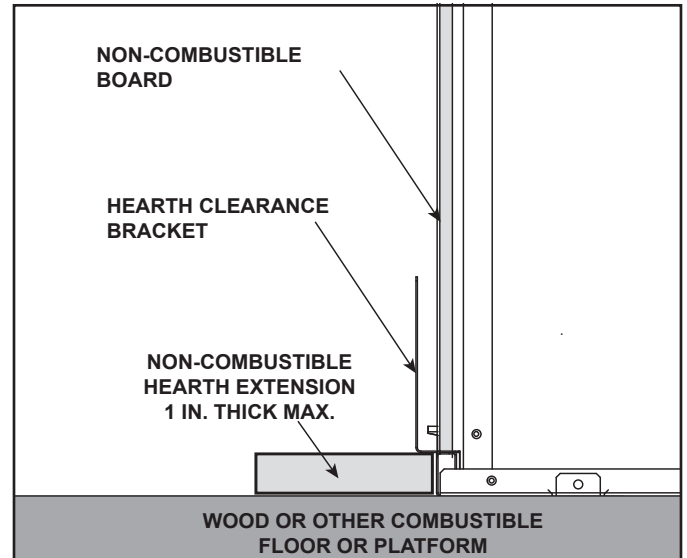
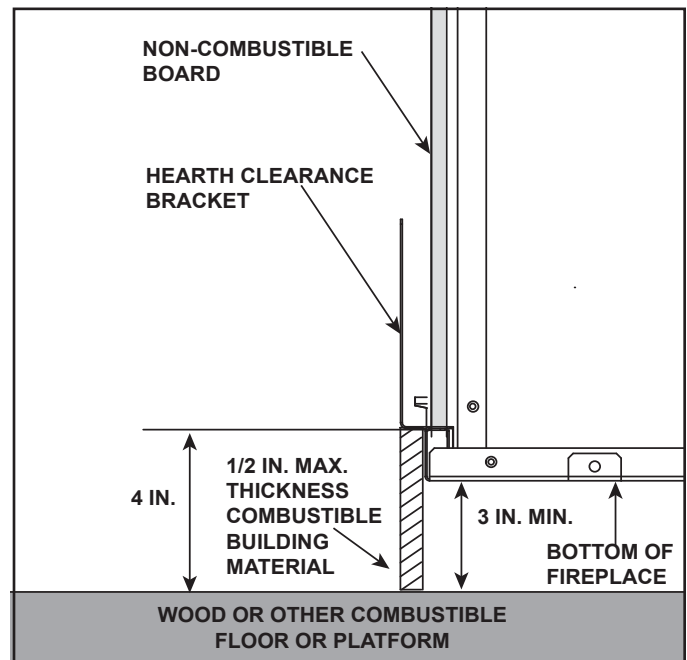

Figure 5.9 Appliance Installed on Combustible Surface
Figure 5.10 Appliance Raised a Minimum of 3 Inches Above
- Hearth extension must be non-combustible and serves to protect combustible floors in front of appliance. See Figure 5.9.
- The base of the fireplace may sit on a combustible surface. See Figure 5.9. The area in front of the appliance must be protected by a non-combustible hearth extension, unless the appliance is raised a minimum of three inches above the combustible floor or hearth. See Figure 5.9 and Figure 5.10.